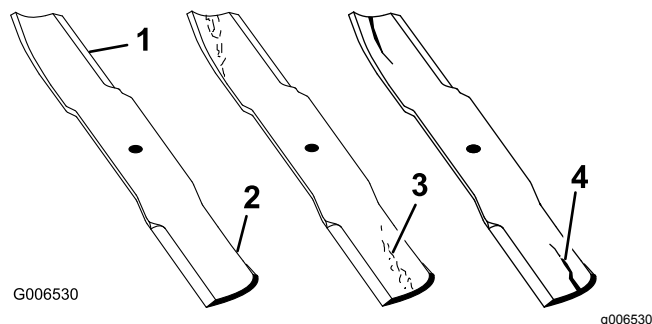

Figure 81
- Inspect the cutting edges (Figure 81).
- If you notice any cracks, wear, or a slot forming in this area, immediately install a new blade (Figure 81).